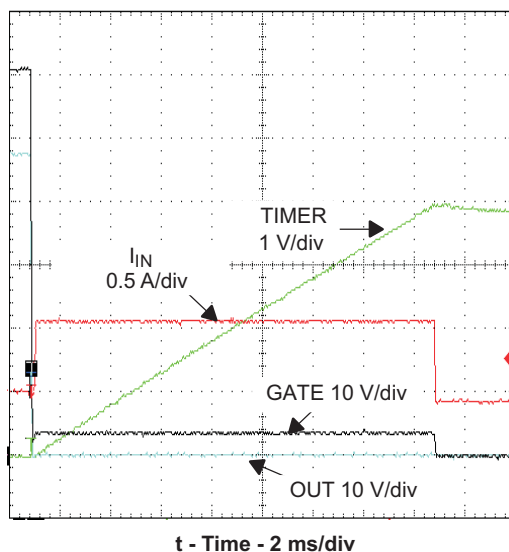
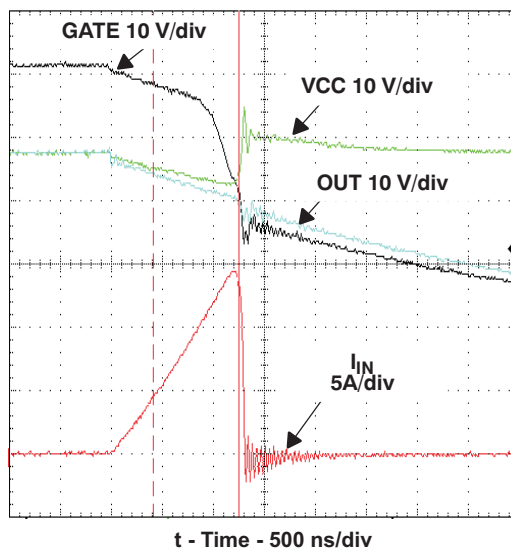

Figure 15. Current Limit Overview
Figure 16. Current Limit Onset
7.4.4 Response to a Hard Output Short (Figure 15 and Figure 16)
Figure 15 shows the short circuit response over the full time-out period. The period begins when the output voltage falls and ends when Q1 is turned off. Q1 current is actively controlled by the constant power engine and gate amplifier circuit while the TIMER pin charges C_T to the 4-V threshold causing Q1 to be turned off. The TPS2490 latches off after the threshold is reached until either the input voltage drops below the UVLO threshold or EN cycles through the false (low) state. The TPS2491 goes through a timing sequence before attempting a restart.
The TPS249x responds rapidly to the short circuit as seen in Figure 16. The falling OUT voltage is the result of Q1 and C_O currents through the short's impedance at this time scale. The internal GATE clamp causes the GATE voltage to follow the output voltage down and subsequently limits the negative V_{GS} to 1 V to 2 V. The rapidly rising fault current overdrives the GATE amplifier causing it to overshoot and rapidly turn Q1 off by sinking current to ground. Q1 slowly turns back on as the GATE amplifier recovers; Q1 then settles to an equilibrium operating point determined by the power limiting circuit.
Minimal input voltage overshoot appears in Figure 16 because a local 100- μ F bypass capacitor and very short input leads were used. The input voltage would overshoot as the input current abruptly drops in a typical application due to the stored energy in the input distribution's inductance. The exact waveforms seen in an application depend upon many factors including parasitics of the voltage distribution, circuit layout, and the short itself.